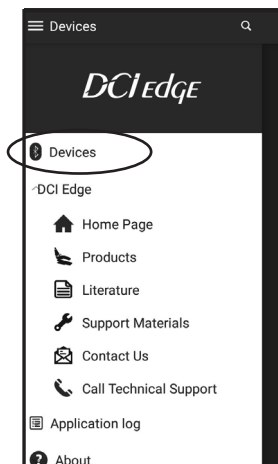
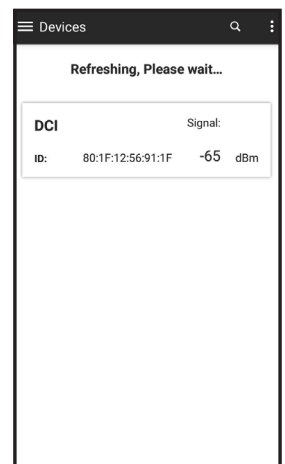

Fig. 1
Fig. 2
- 3 Connect:** Choose Devices from the main menu (Fig. 1). From the Devices Screen, tap on the device listed to connect to it (Fig 2). To avoid confusion, do not make more than one chair discoverable at a time.